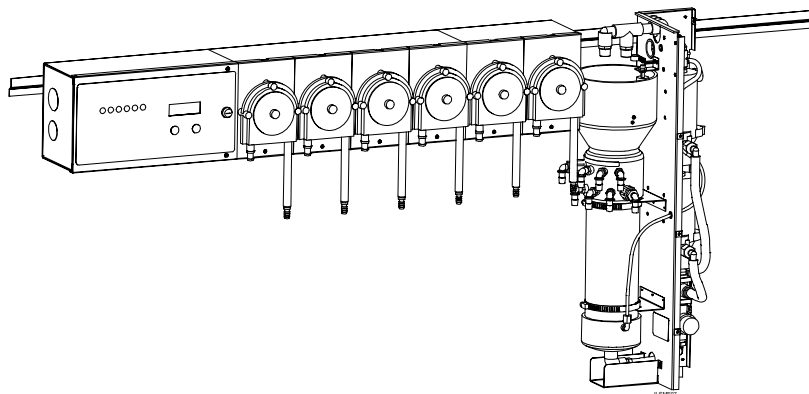

Figure 9. Squeeze Tubing Connections from Peri Pumps to Transport Module
See Figure 9. The fittings are on the mixing chamber, above the clear section.
- Seal both ends of the braided tubing with a hose clamp to prevent vacuum leaks. See Figure 9.